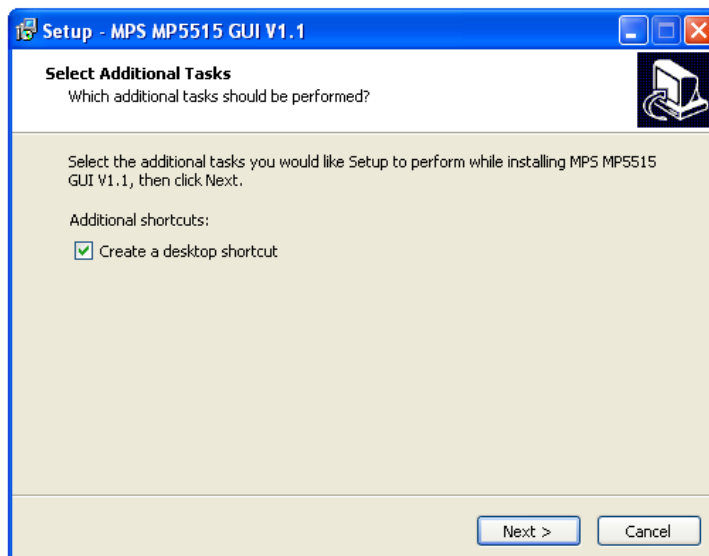

Figure 4: MPS I²C GUI Set-Up Guide
3. Double click the .exe file to open the set-up guide (see Figure 4).